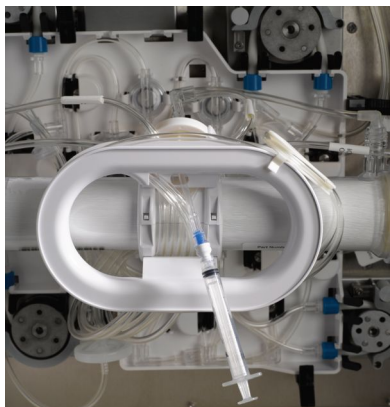

Figure 5-6: Sample port with the syringe connected
3. Connect the syringe to the sample port, as shown in Figure 5-6.